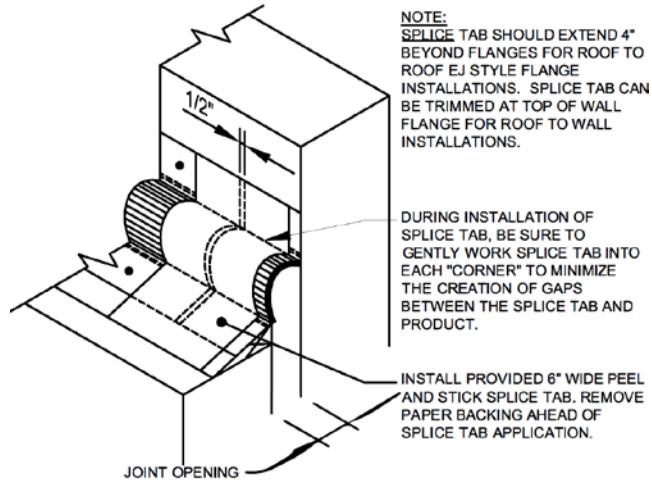

Figure 2
2. Install provided 6" wide peel and stick splice tab. Remove paper backing ahead of splice tab application being sure not to stretch the splice tab and working it into each crevice. Splice tab must extend an additional 4" (minimum) beyond flange on roof side. **See Figure 2**